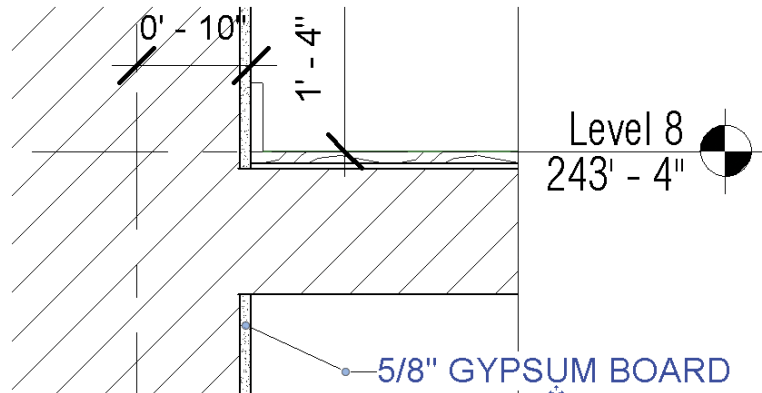

FIGURE 11.31 Using the Material tag
- Choose the Material Tag button from the Tag panel on the Annotate tab. With the tag selected, mouse over the vertical panel shown in Figure 11.31. The material there has been prepopulated with 5/8" GYPSUM BOARD as a tag through the material (from the Manage tab). Select the material, and place the tag.